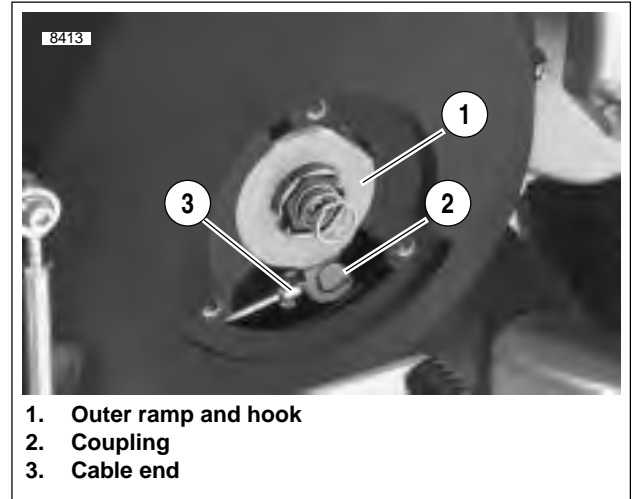

Figure 6-2. Clutch Release Mechanism
11. See Figure 6-2. Remove the outer ramp and hook (1) from the cable end (3) and coupling (2). Remove cable end from slot in coupling. See 6.3 CLUTCH RELEASE MECHANISM